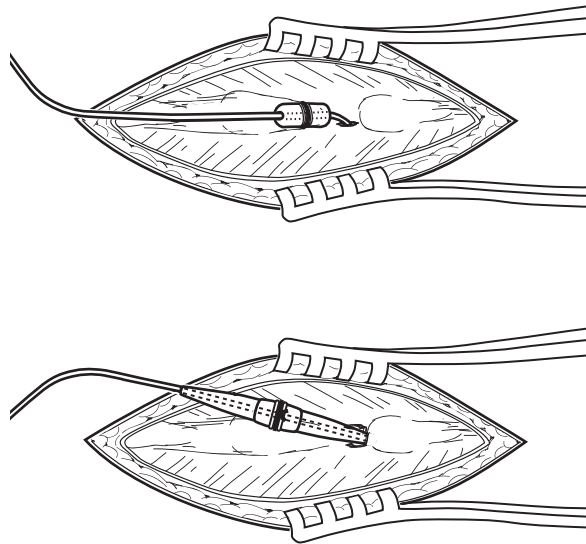

FIGURE 10
2. Select the appropriate anchor and place it on the lead as closely as possible to where it emerges from the vertebral column (see Figure 10). Use sterile water (not saline) to lubricate the anchor and to facilitate sliding it down the lead. If using the long anchor, slide it down the lead until the anchor's distal strain relief is at least 1 cm (0.4 in) into the fascia. If implanting multiple leads, tag the leads with ligature so that their position can be identified later.